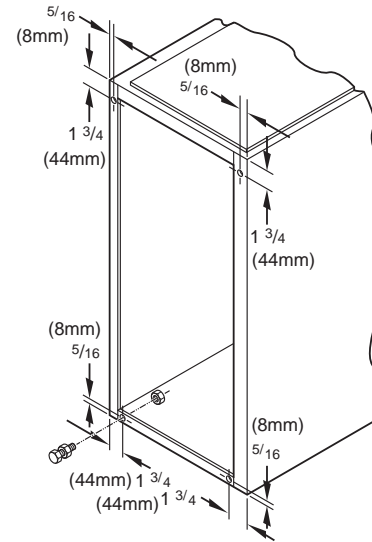

Fig. 9 – Leveling Legs
In upflow position with side return inlet(s), leveling legs may be used, see Fig. 9. Install field-supplied, 5/16 x 1-1/2 in. (8 x 38 mm) (max) corrosion-resistant machine bolts, washers and nuts.
1. Position furnace on its back. Locate and drill a hole in each bottom corner of furnace, see Fig. 9.